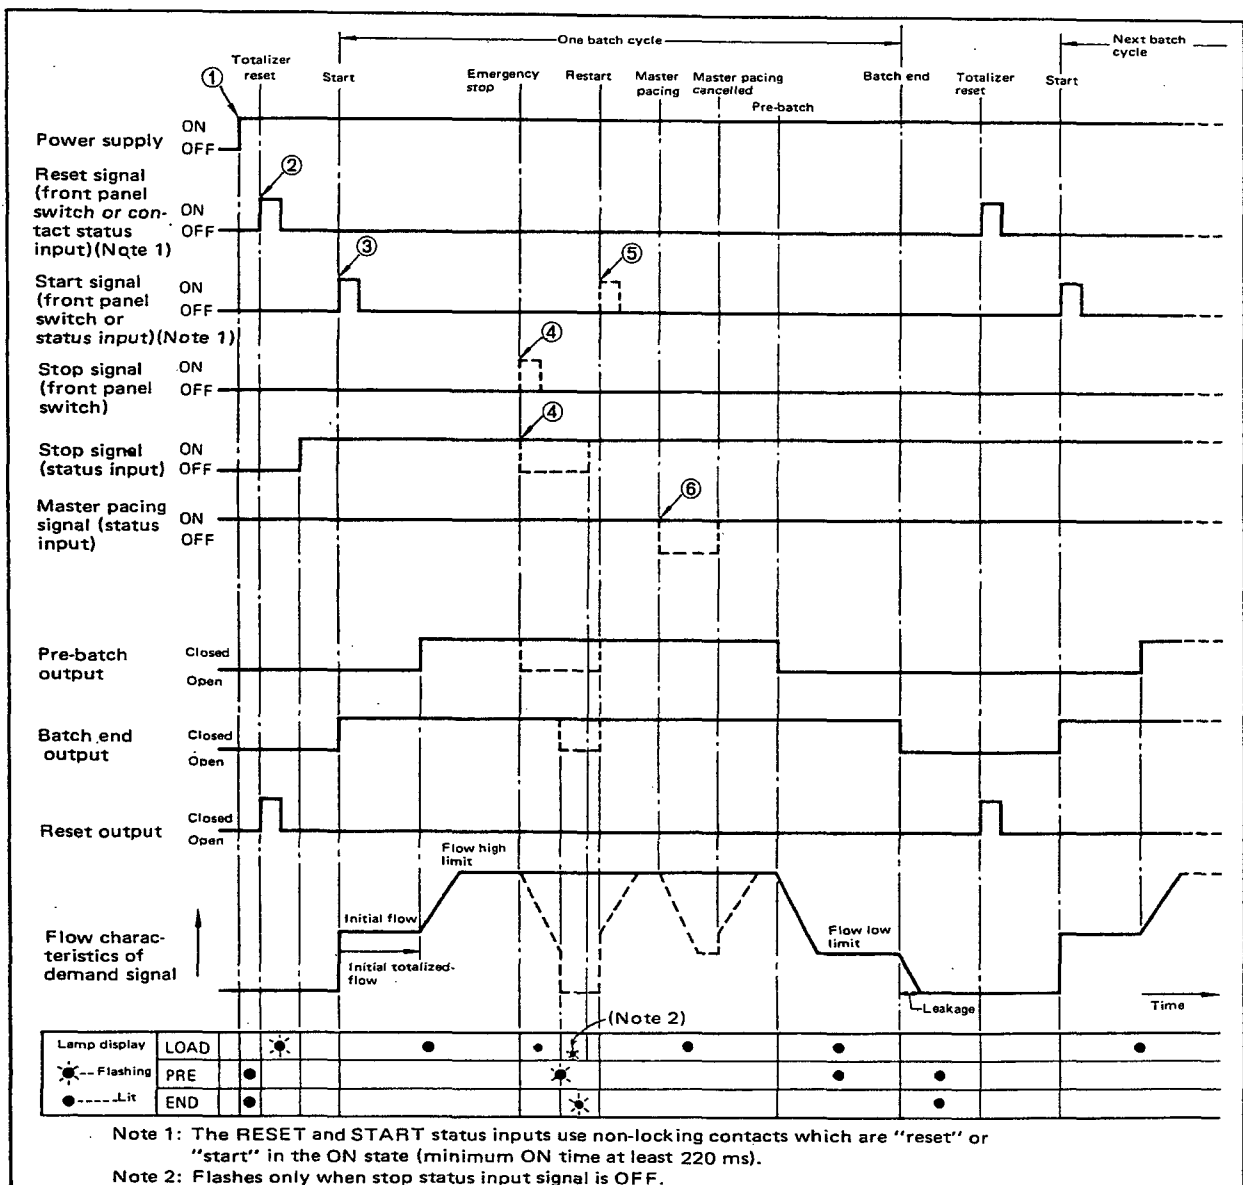

Figure 5-4-2. Batch Sequence and Flow Characteristics.
5-4-1. Operating Batch Master Station. (See Figure 5-4-2.)
- ③ Turn the start signal (front panel START switch or status input) ON.
This controller operates automatically according to the batch sequence, and stops automatically when the totalized flow reaches the batch loader set value. Figure 5-4-2 shows the change in the demand signal during the batch cycle, begin with step ② above.
- ④ To stop operation in the middle of a batch cycle, press the front panel stop switch, or turn the stop status input OFF. The flow ramps down to the flow low limit in a preset time, and then goes to zero.
- ⑤ To resume operation after stopping in the middle of a batch cycle, turn ON the start signal without resetting. The remaining quantity is then loaded, so that the totalized flow coincides with the batch loader set value. To restart the